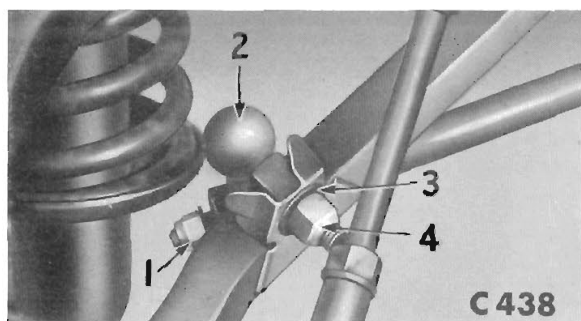

Fig. 25. Anti-roll bar attachment to lower wishbone
2. Secure the damper lower eye to the wishbone with the bolt (14), plain washers (15) and (17) and nyloc nut (18).
- Secure the upper spring pan to the chassis sub-frame with three washers (6) and nyloc nuts (4). A packing piece is fitted between the upper spring pan and chassis sub-frame on the left-hand side of left-hand drive vehicles.
4. Attach the anti-roll bar to the lower wish-bone (Fig. 25).